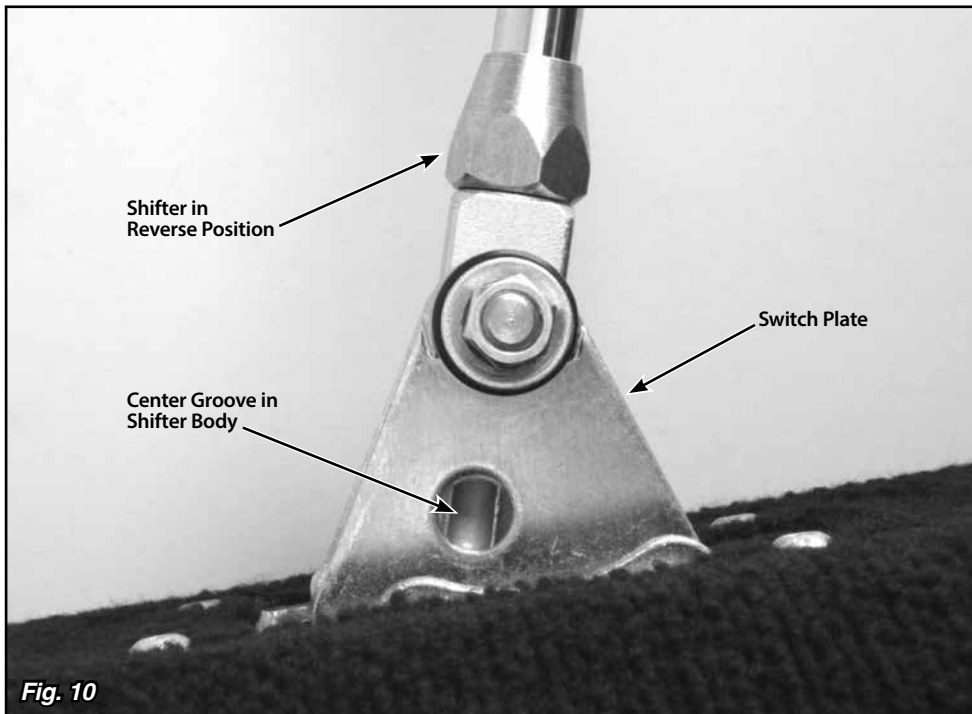

Fig. 10
Step 16: Put the Shifter into the Reverse position. Reposition the switch plate so that the hole in the switch plate lines up with the center groove in the shifter body. **Fig. 10** Screw the provided aluminum adjuster plug into the neutral safety switch opening. Wiggling the switch plate slightly forward and back while you are screwing in the aluminum adjuster plug will help get the shifter body centered on the adjuster plug. **Fig. 11**